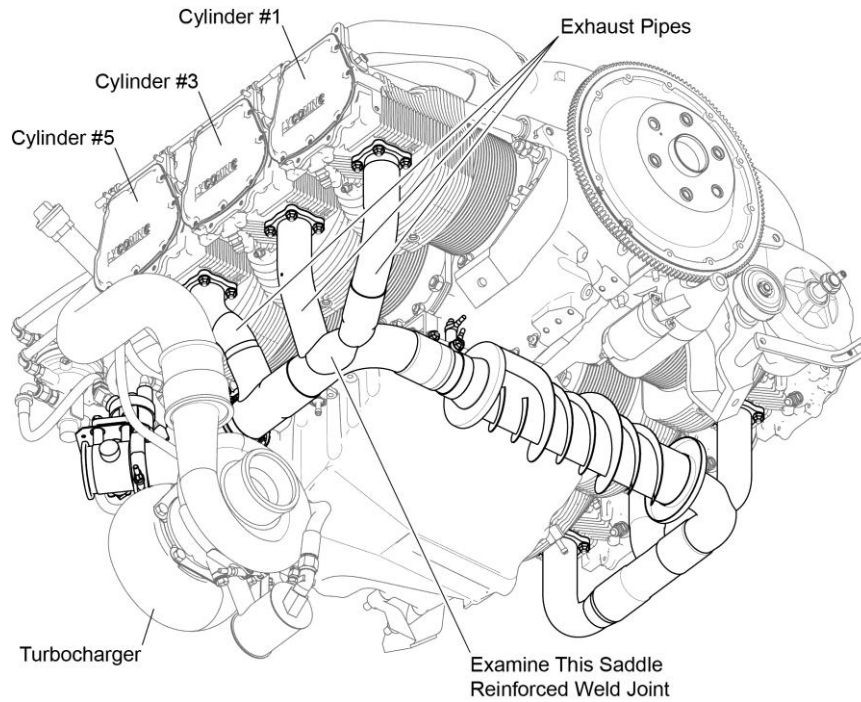
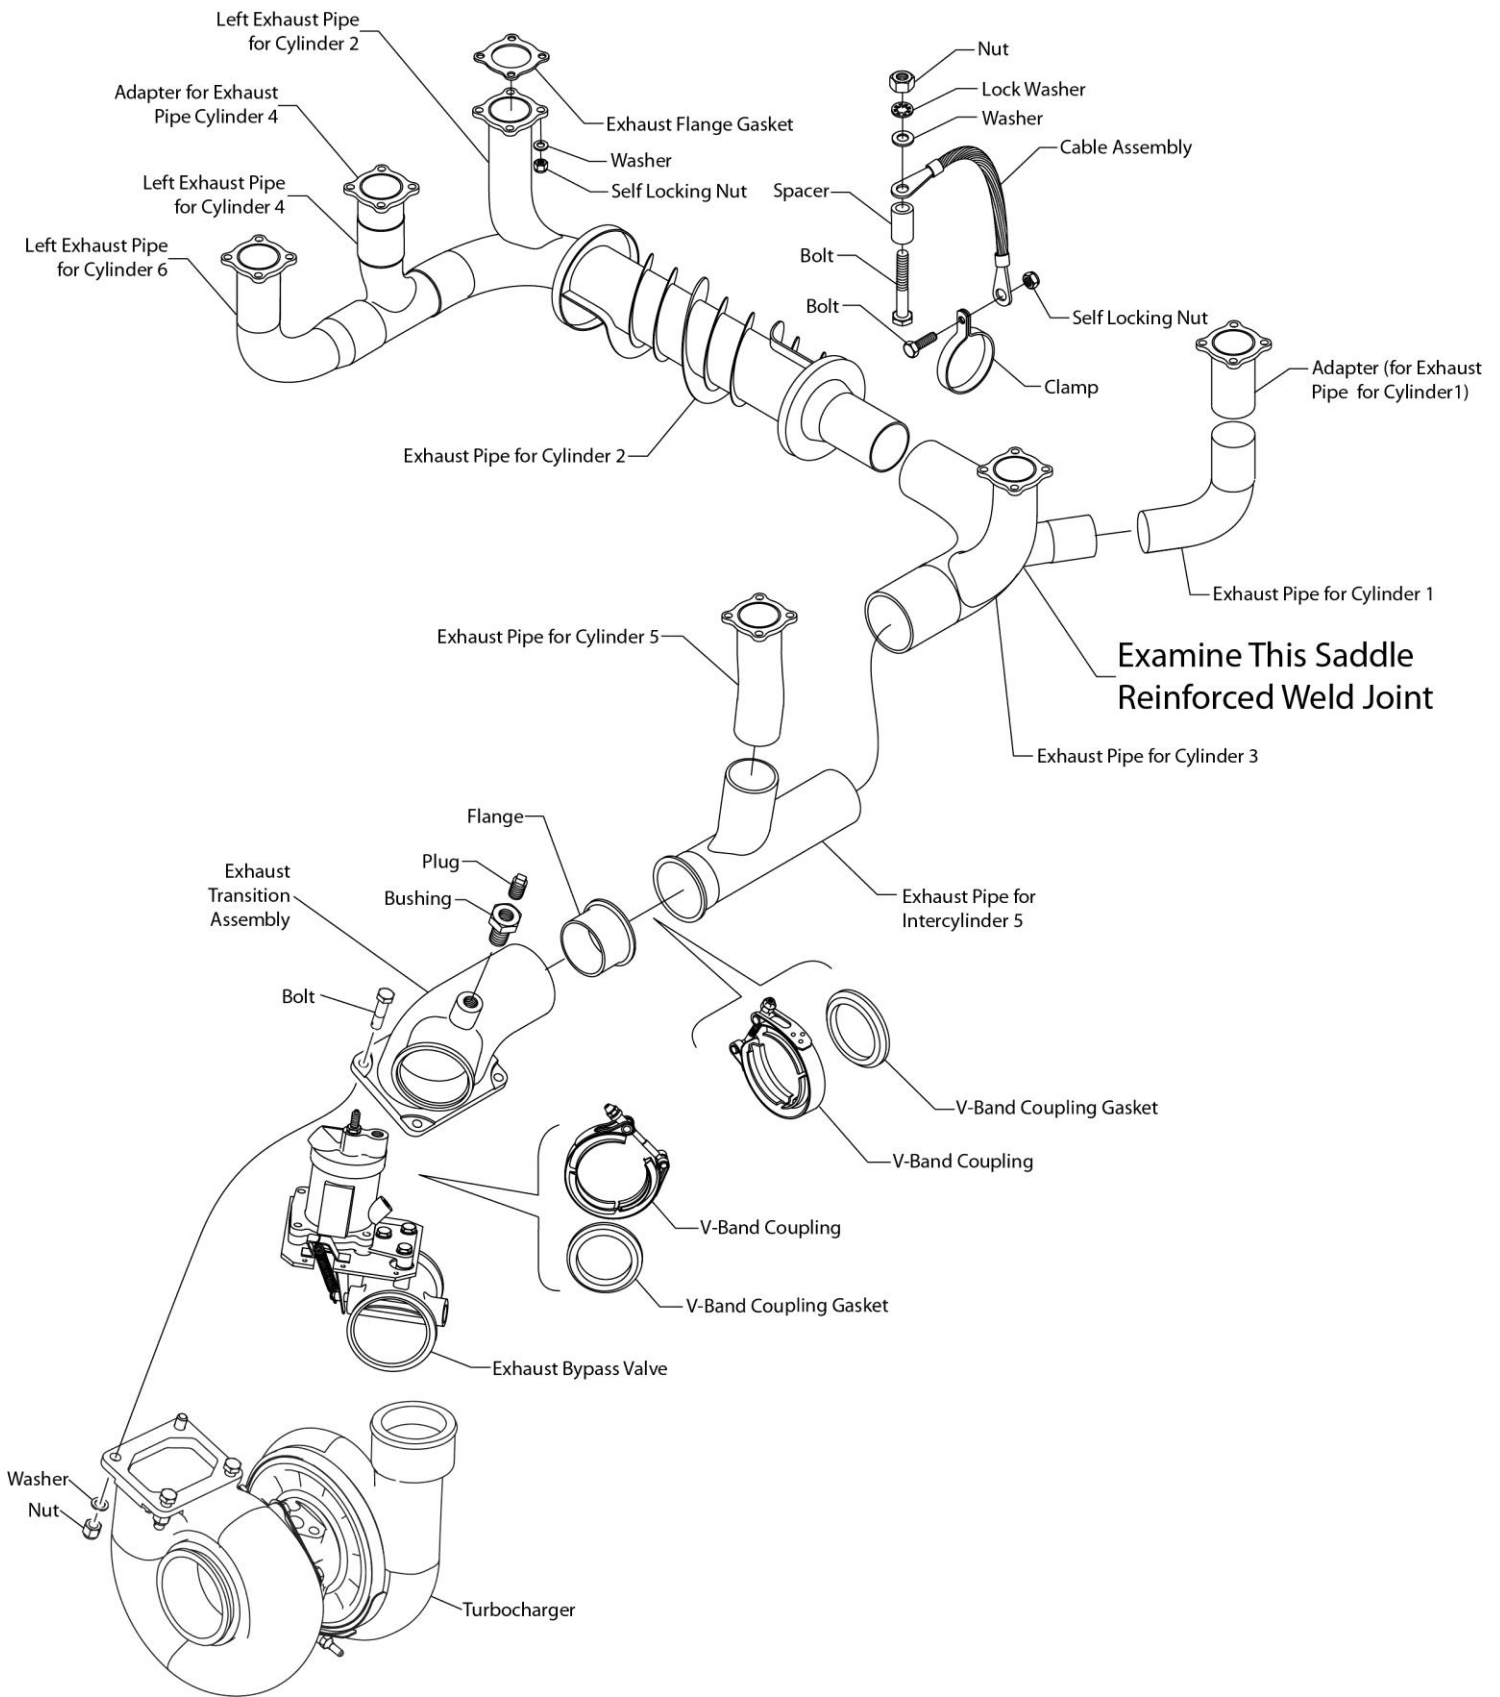
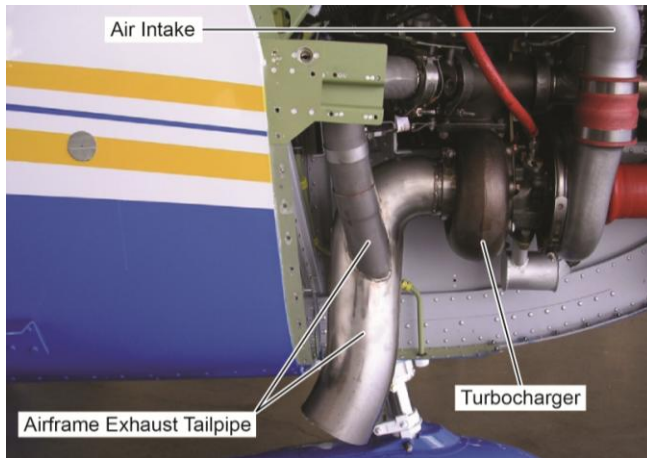

Figure 2
Figure 3
Figure 4
This procedure applies only to exhaust system components (Figure 3) that are installed on the Lycoming TIO-540-AJ1A engine at the factory and not airframe-installed exhaust system components. As a point of reference, Figure 4 identifies some of the factory-installed exhaust components on the engine and airframe-installed exhaust components around the turbocharger.
6. Remove the V-band coupling from the following two slip joint connections (Figure 3) on the exhaust system:
7. Remove and discard the gasket (Figure 3) from each of the two removed V-band couplings.
8. For reference, prior to exhaust system disassembly, use either a non-graphite marker such as Colorbrite No. 2127 or 4127 or a Marks-A-Lot marker to identify the exhaust system pipes on each side of the engine (Figure 3).
9. While one person removes the self-locking nuts and washers (Figure 3) from the vertical portion of the three exhaust pipes on the 2-4-6 (even numbered) cylinder side of the engine (Figure 2), two people lower and remove the exhaust pipes and put them on a clean work surface. Discard the self-locking nuts and gasket from each exhaust pipe flange at the cylinder head.
1. Use a 10x power magnifying glass to examine the weld joints of the exhaust pipe for cylinder #3 (Figure 3). Closely examine the saddle reinforced weld joint (Figures 8 and 9). If any cracks or damage are found, replace the exhaust pipe.
1. Apply a uniform coating of Loctite® C5-A® anti-seize compound or equivalent to the slip joint mating surfaces (Figure 3) of the exhaust pipes.